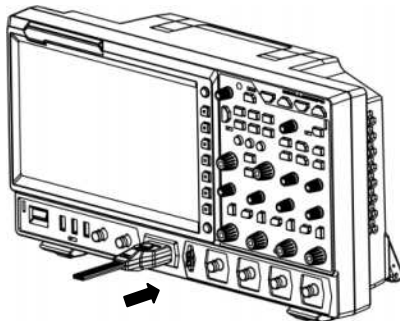

Figure 1-9 To Connect the Logic Probe
1. Connect the single-wire terminal of the logic probe to the digital channel input terminal on the front panel of the oscilloscope in the correct direction, as shown in Figure 1-9.